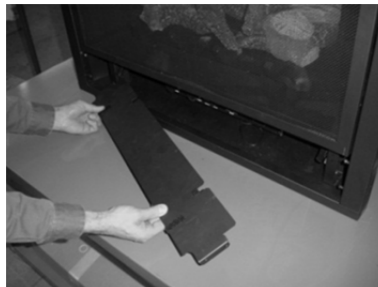

Figure 1
- 1 Remove the concealment cove (see Figure 1).
- 21 Clip any excess wiring into the wire clips on the back of the control panel (see Figure 33). Use the included wire ties, if necessary, to keep all wiring from contacting any hot or moving components. Re-attach the control panel (see Figure 34) and shroud (see Figure 1).